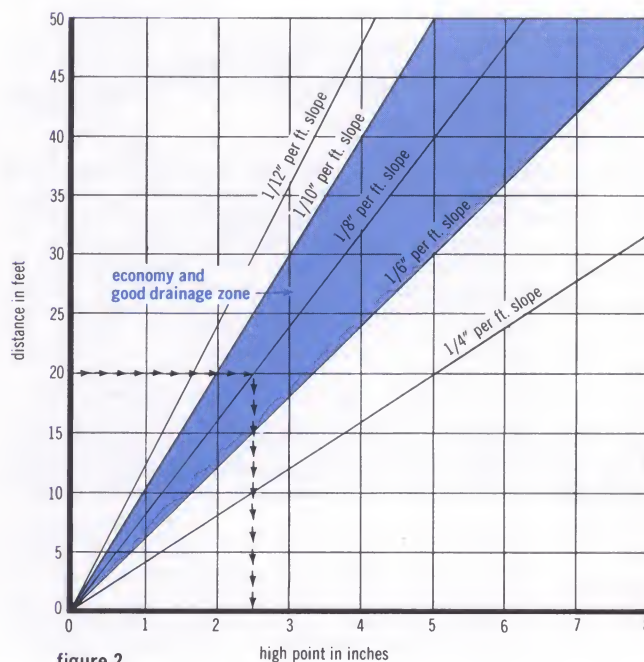

figure 2
The graph (Fig. 2) may be used to determine fill thickness at the high point for various slopes and horizontal distances.
**Solution:** Enter graph (Fig. 2) at 20 ft. on the vertical scale and move right horizontally to the  $\frac{1}{8}$ " per ft. slope line. The fill thickness for the high point will be found directly below on the horizontal scale and is  $2\frac{1}{2}$ ".